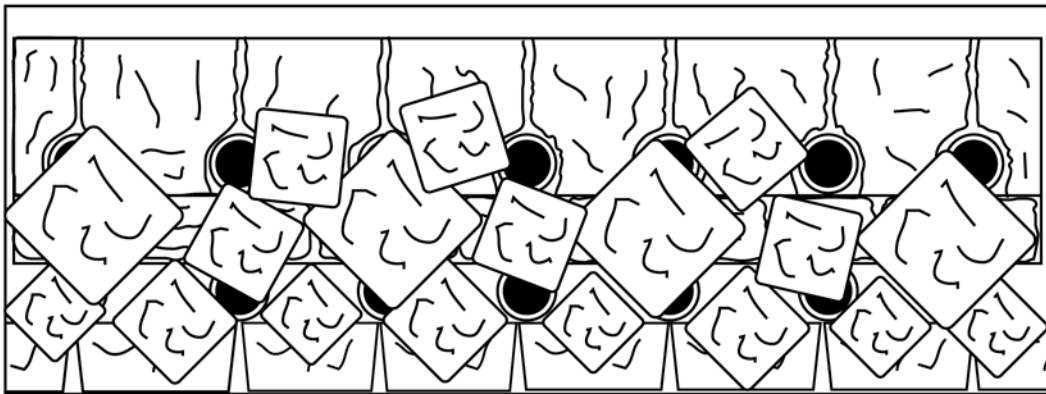

Figure 13.
- 5** Place the remaining 3 small coals as shown in Fig 13.